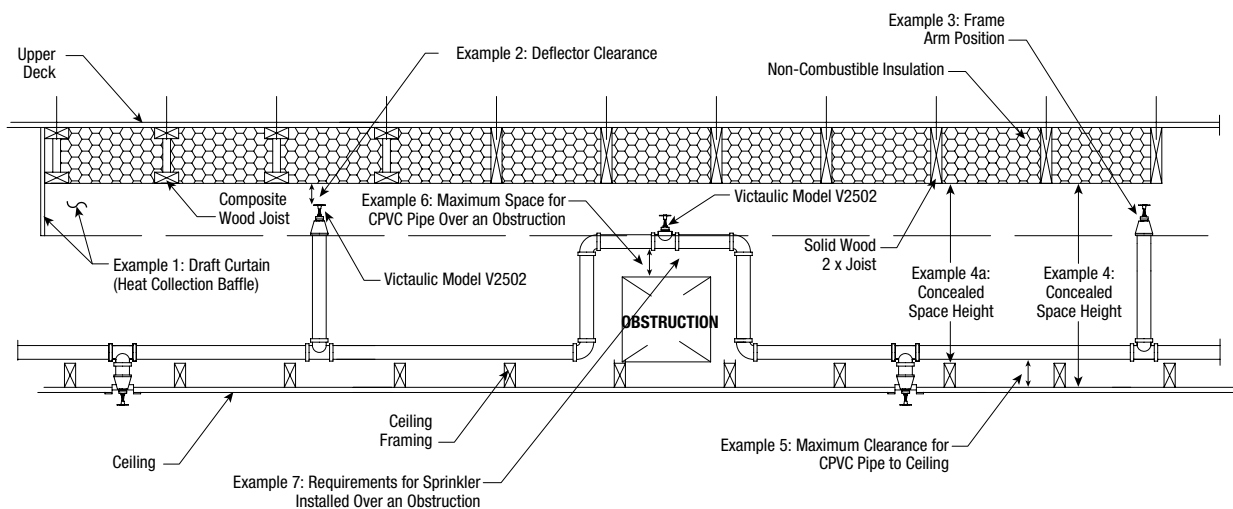

Figure 2
NOTE: This remote area does not include any additional sprinklers required for protection of sprinkler system products that are offset over an obstruction. For solid or composite wood construction, where the upper deck is filled with non-combustible insulation (Figure 2), the remote area must be calculated per NFPA 13 requirements for light-hazard applications with a smooth, flat ceiling.
Where the Upper Deck is Filled with Non-Combustible Insulation (Figure 2)
Concealed Space Area: The area of the concealed space is not limited. However, draft curtains (heat collection baffle) or full-height walls must be provided to limit the maximum localized detection area to 1000 ft²/93.0 m². Draft curtains (heat collection baffle) or full-height walls must drop below the joist a minimum of 6"/152.4 mm or 1/3 of the total space (whichever is smaller) and must run laterally with the joist spaced at 25 ft/8 m maximum widths. Draft curtains (heat collection baffle) or full-height walls must be constructed of a material that will not allow heat to escape through or above the barrier. This material may be 1/4"/6.4-mm thick plywood (refer to Figure 2, Example 1).
Deflector Position: The clearance from the sprinkler deflector to the bottom of the joist is 1 1/2" minimum to 2"/50.8 mm maximum (refer to Figure 2, Example 2). The sprinkler must be installed only in the upright position. When the Victaulic Model V2502 Specific Application Sprinkler is used in an installation with a pitched roof and a flat ceiling, maintain the specified clearances from the sprinkler deflector to the bottom of the upper deck joist and the maximum height of the pipe run to the ceiling in all locations. The sprinkler deflector must be installed parallel with the plane of the roof.
NOTE: There is no limitation by the UL Listing in relation to frame arm positioning. However, Victaulic prefers the frame arms to be parallel with the joists; this positioning produces a more efficient spray pattern during sprinkler operation (refer to Figure 2, Example 3).
Concealed Space Height (Figure 2, Examples 4 and 4a):
- When Victaulic Model V2502 Specific Application Sprinklers are used with sprinkler system products, the bottom of the horizontal run must be no greater than 6"/152.4 mm or 1/3 of the total space above the ceiling (whichever is smaller). The sprinkler system piping can then be used to supply the Victaulic Model V2502 Specific Application Sprinklers as well as the sprinklers below the ceiling. All instructions in the Spears FG-31010 Installation Instructions must be referenced during system installation. NOTE: If 12"/304.8 mm trusses are used in Figure 1, the bottom of the horizontal run must be no greater than 4"/101.6 mm above the ceiling. In Figure 2, if the concealed space height from the bottom of the upper deck joist to the top of the ceiling joist is the minimum 8"/203.2-mm requirement, the bottom of the horizontal run must be no greater than 4"/101.6 mm above the ceiling (refer to Figures 1 and 2, Example 5).